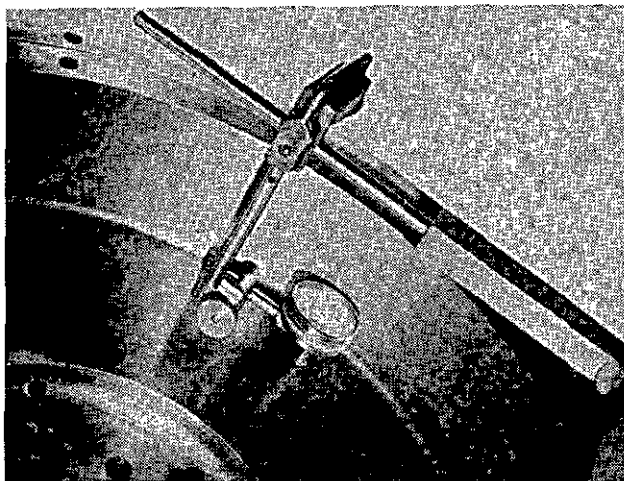

Fig. 14-61 (N114139). Check The Alignment Of The Face.
- a. Move the indicator so that it is positioned as shown in Fig. 14-61.